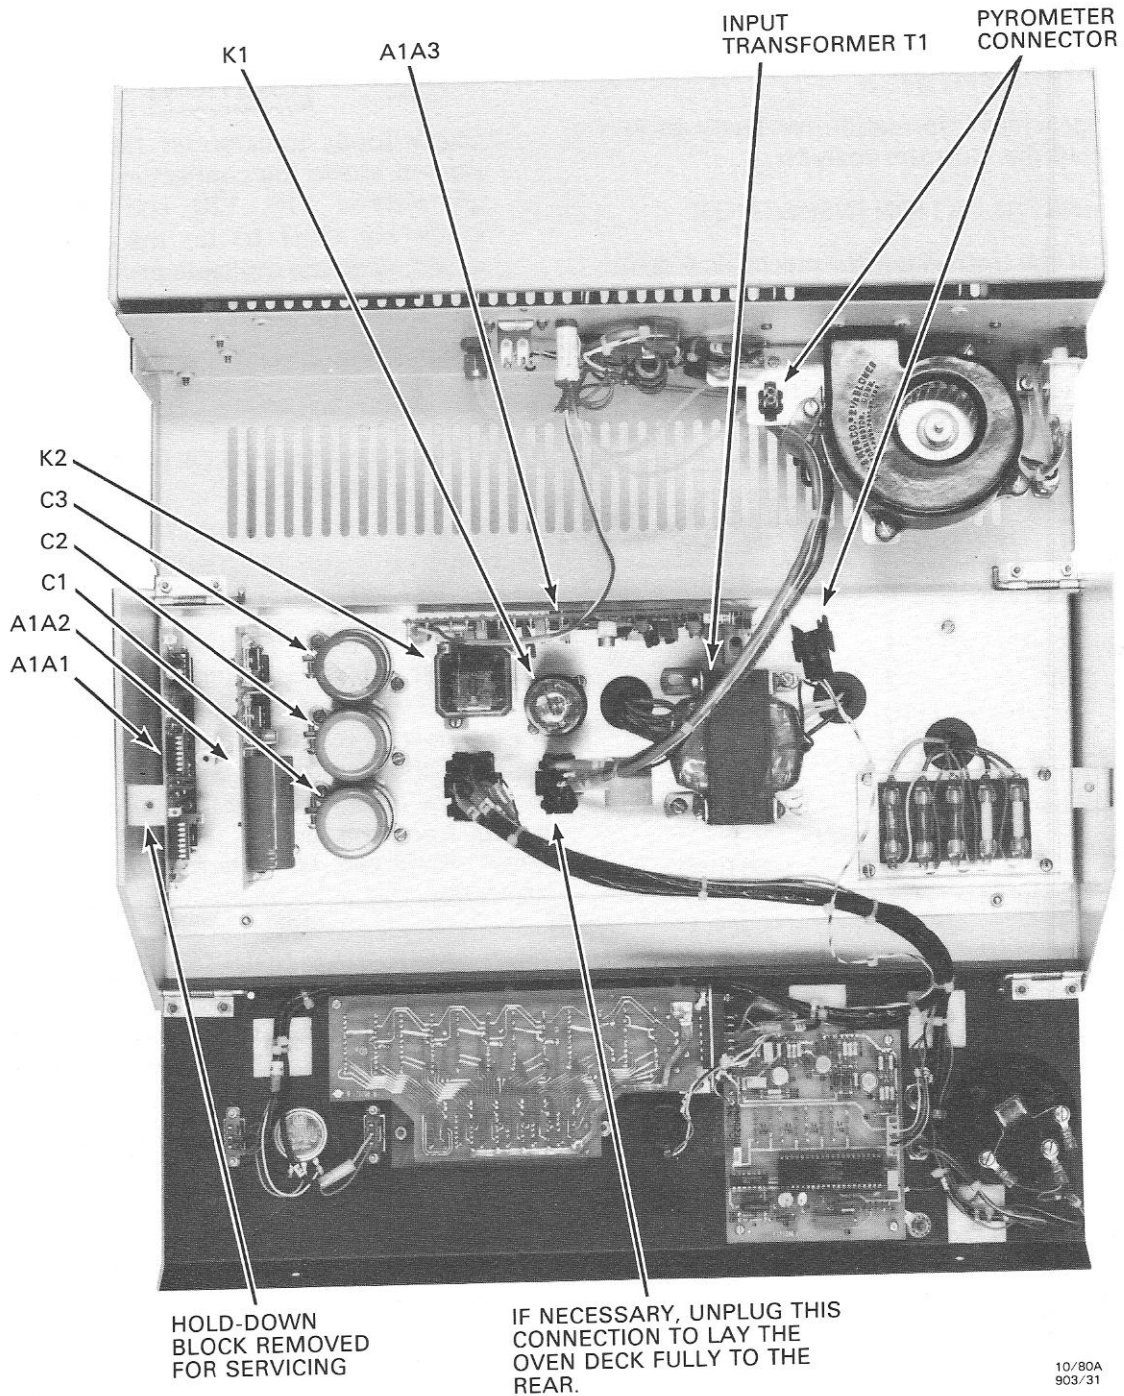

Figure 2-1. Moisture Analyzer, Interior View.
(2) Remove the two screws and pull the front panel fully forward to access the interior, and lay the oven deck back (this requires removal of two additional screws) (figure 2-1).